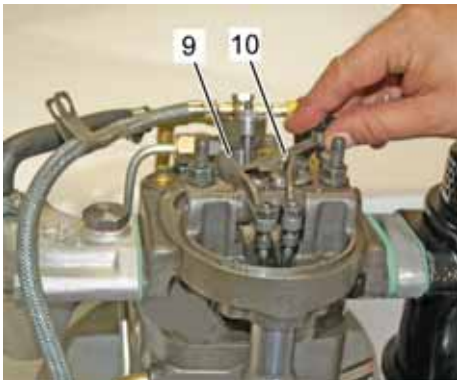

Fig. 94
10. Setting the inlet valve is carried out in exactly the same way as for the exhaust valve (see Fig. 94 and 95).